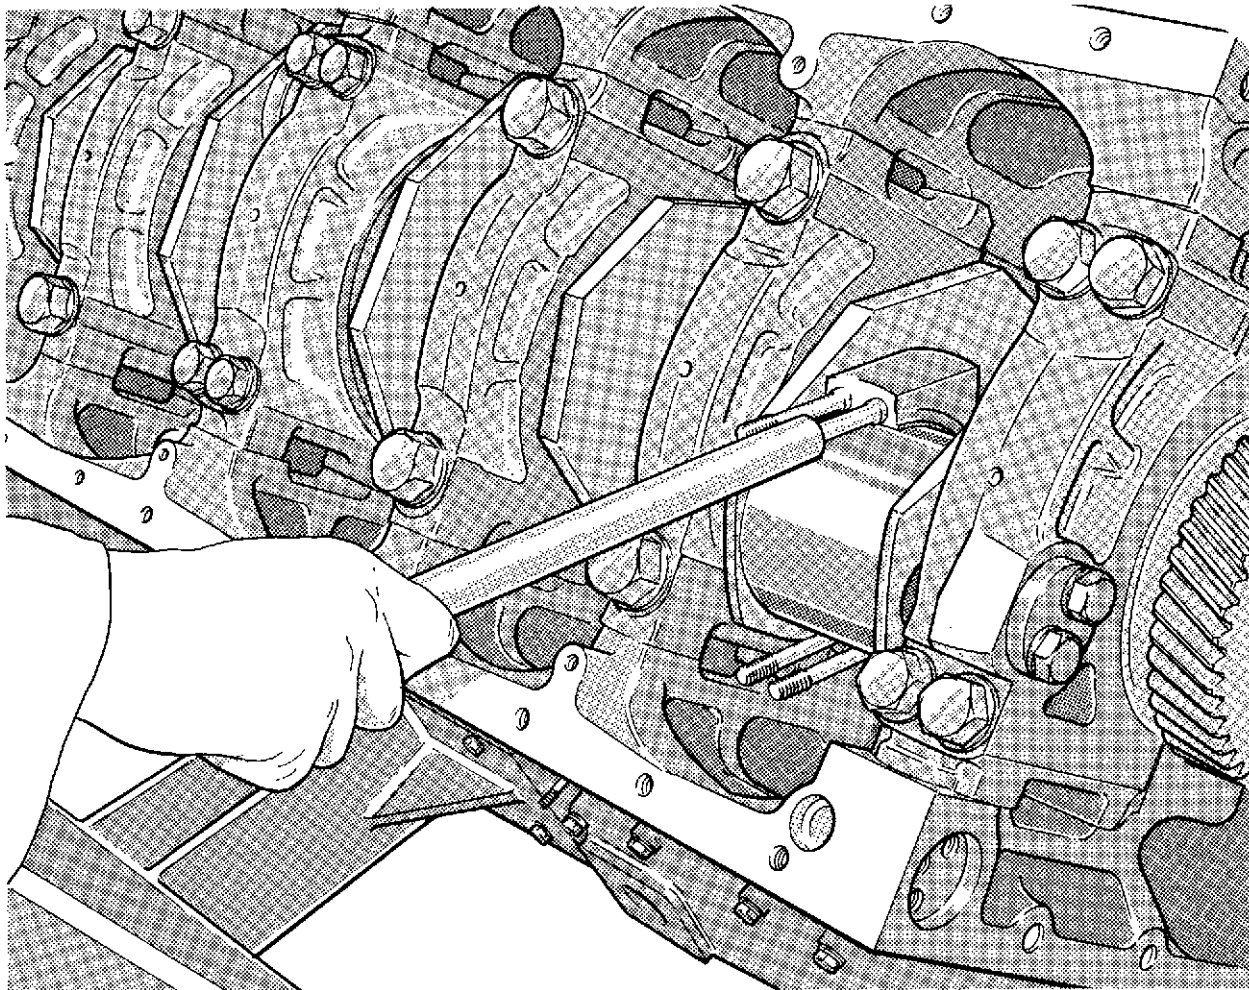

Fig. 9 Fitting connecting rod assembly
- 20 Carefully fit the piston/connecting rod assembly into its liner, ensuring that the cut out in the piston skirt is correctly positioned in relation to the piston cooling oil jet. Using the guide pin, pull the assembly through the liner, (fig. 9), until the big end bearing is seated on the crankpin. If the piston and connecting rod have been assembled correctly, the chamfered edge of the big end bearing bore will face the adjacent crank web.